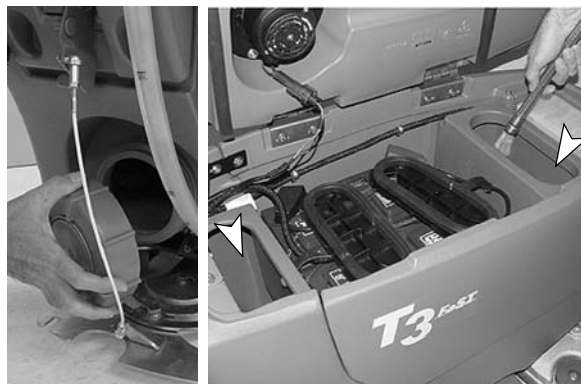

FIG. 33
2. To rinse out the solution tank, remove the clean-out cap at the rear of the machine and spray water, 60°C (140°F) maximum, directly into the two fill-ports located under the recovery tank (Figure 33).